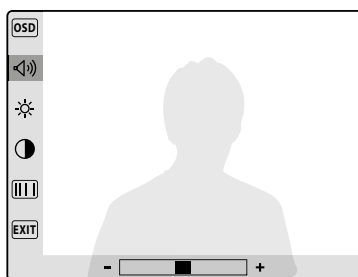

Fig. 18
- To enter into programming menu press the  button (**Fig. 18**).
- The speech volume (8 levels, **Fig. 18**);